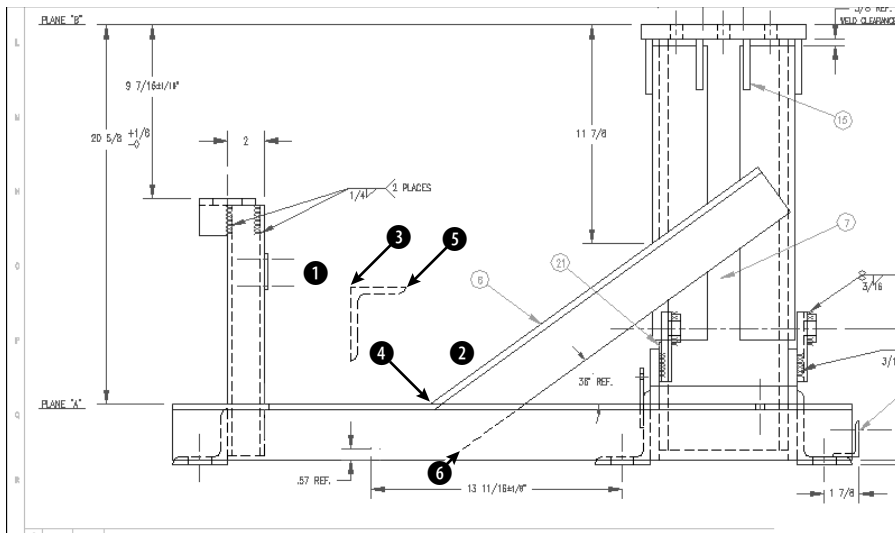

Figure 10-12: A base assembly for a commercial washing machine.
2. Save the file as *ab10-04.dwg* in your **AutoCAD Bible** folder. It looks like Figure 10-12.
Specify first source point: *Pick the endpoint at ③ in Figure 10-12.*